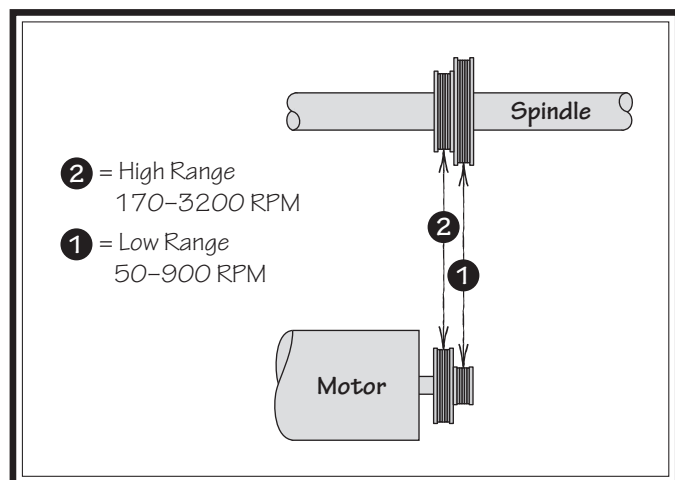

Figure 25. Speed range belt positions.
The Model SB1126 has two speed ranges for varied turning operations. These ranges are selected by changing belt positions on the motor and spindle pulleys (see **Figure 25**).
5. Roll belt onto desired set of pulleys, as shown in **Figure 25** on **Page 28**.